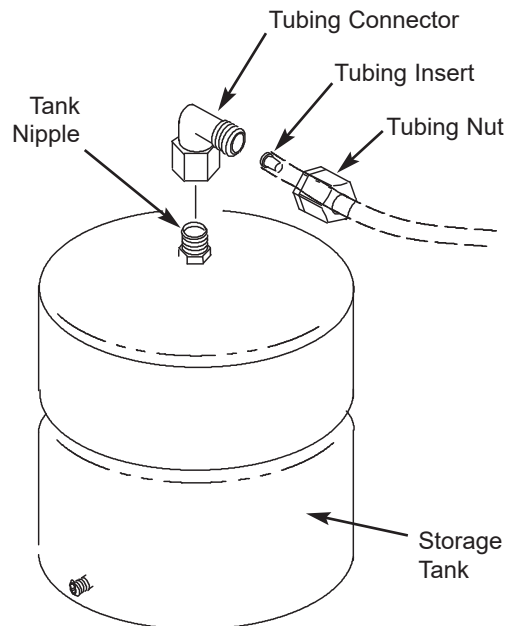

FIG. 14
1. Apply thread sealing tape (2 wraps clockwise) to the threads on the nipple at the top of the tank. See Fig 14.
2. Locate the tubing connector. See Fig. 14. Tighten the tubing connector onto the tank nipple 7-8 full turns, being careful not to cross thread or overtighten.